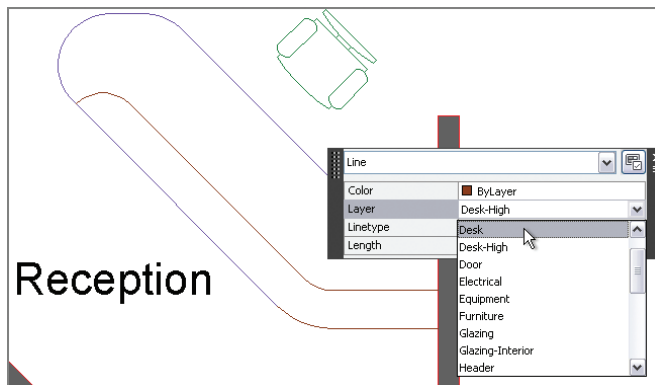

FIGURE 6.3 Assigning a different layer to the selected object
5. Select the Desk layer in the drop-down (see Figure 6.3), and press the Esc key to exit Quick Properties mode. Observe that the line whose layer property you changed now appears violet, like the other objects on the Desk layer.